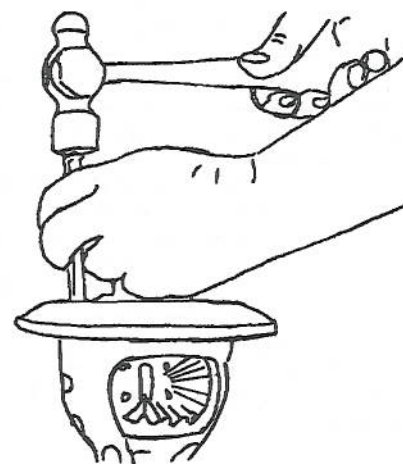

Figure 5-130. Pinion Yoke Removal
- (13) Spread housing no more than figure given in table 6-1. Remove dial indicator.
- (14) Remove carrier caps. Tag caps for assembly reference.
- (15) Remove differential case kit (12).
- (16) Remove and discard capscrews (11).
- (17) Remove ring gear from differential case (13).
- (18) Remove inner parts kit (14).
- (19) Remove side carrier kits (15) and shims (10).
- (20) Mark propeller shaft and end yoke assembly (4) for assembly reference.
- (21) Remove and discard pinion nut (2) using tool #J-8614-01 and washer (3).
- (22) Remove end yoke assembly (4) using tools #J-8614-01, #J-8614-02, and #J-8614-03 (figure 5-130).
- (23) Remove dust cap from pinion gear.
- (24) Remove pinion gear.